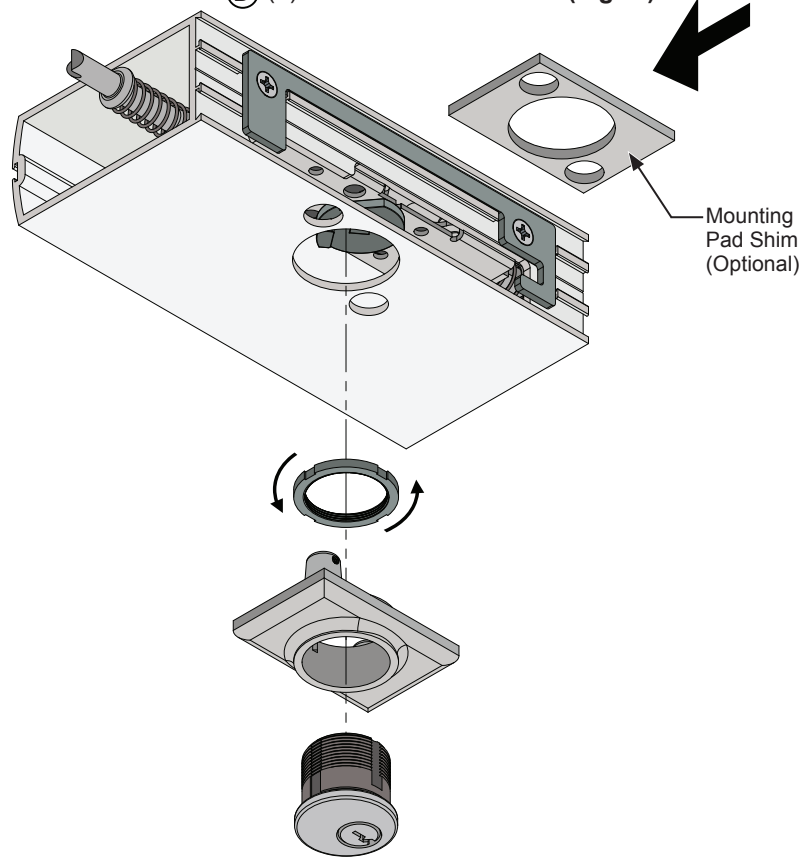

FIG. 10
1. Insert the Mortise Cylinder into the mounting pad and secure with the Cylinder Lock Ring Included. Slide in the mounting pad shim if necessary. **(Fig.10)**